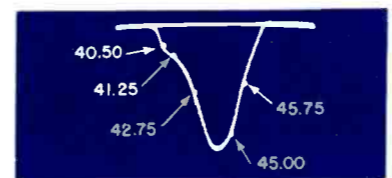

Fig. 14 Overall Response With Zero Bias For Adjusting the 40.5 Mc Trap
10. Switch oscilloscope to position used in step 8. Remove the bias battery and ground the AGC. Adjust signal generator to obtain a 3 volt peak to peak response similar to Fig. 14. Adjust